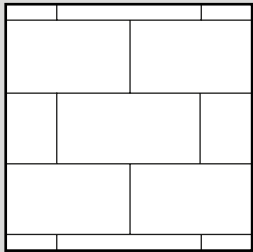
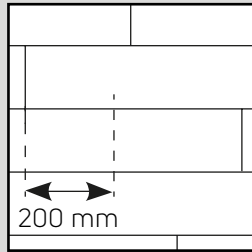

Fig. 3a
Fig. 3b
4. Start the second row by clicking the tongue into the groove holding the plank at an angle (approximately 30°), then push the plank/tile firmly into the groove of the first row. Install the next plank/tile by clicking the tongue and groove together along the short edge. Ease the tongue and groove together on the long side by angling the planks/tiles together (Fig. 3). Tiles and planks should be installed 'off-set' such that four corners never meet (Fig. 3a and Fig. 3b).